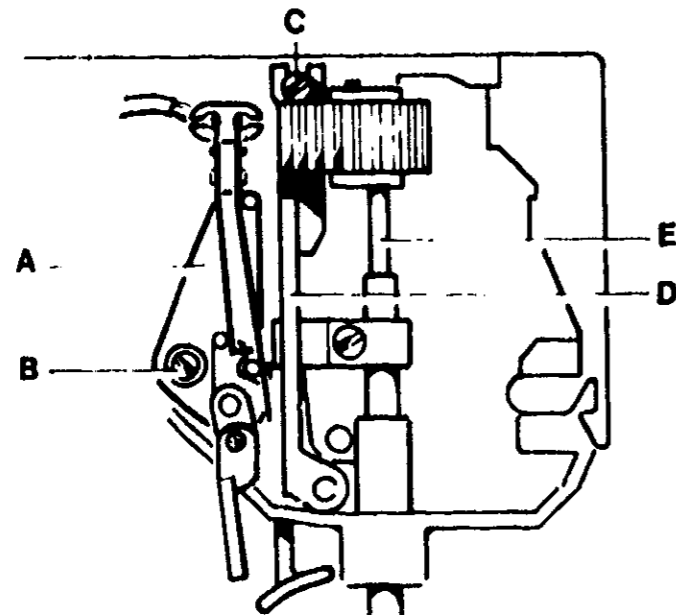

FIGURE 70
Remove screw (B) (Figure 70) and remove buttonholer contact unit (A)